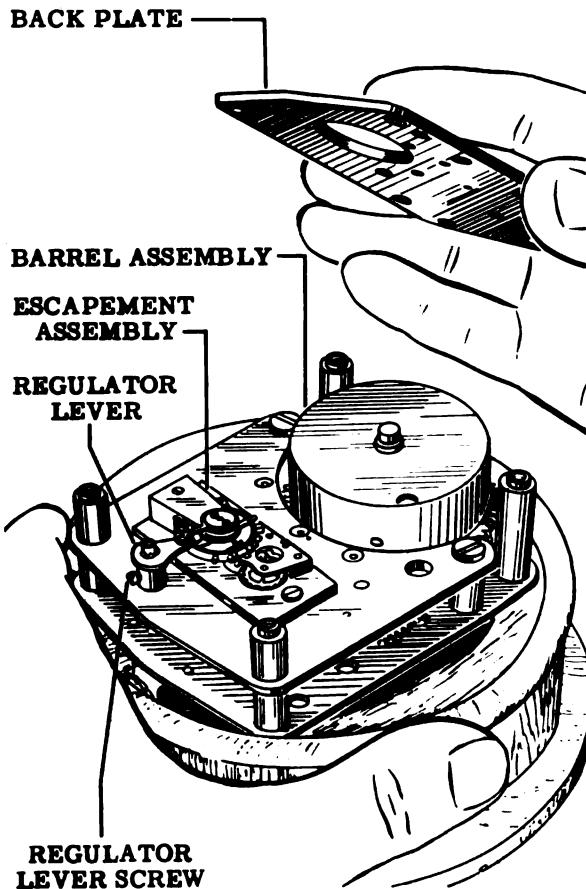
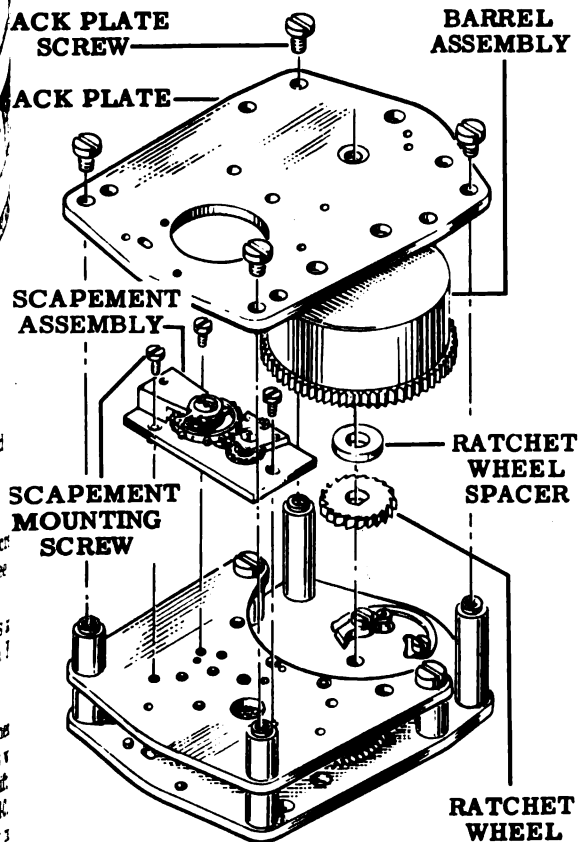
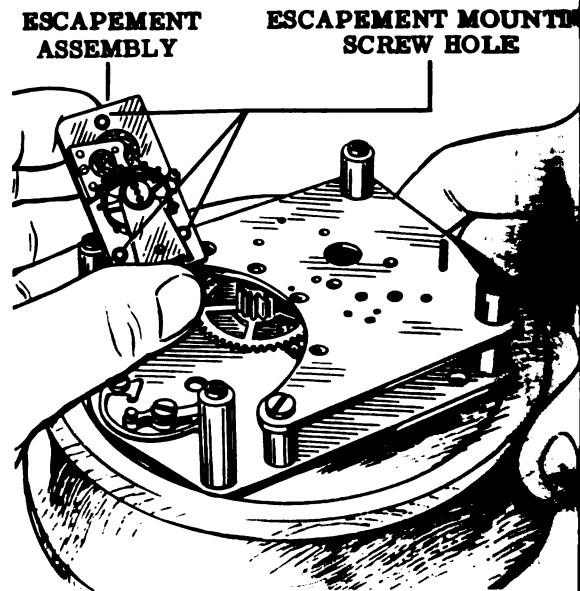

Figure 38
Figure 41—5165 Mechanical Clock Movement
Figure 45
5. Turn the movement over so that it is train side up (back plate up) on the movement work block (Tool No. 1B) and in the position shown in Fig. 38.
7. Unscrew the four back plate screws and remove the back plate as shown in Fig. 38. (Also see Fig. 41.)
- Lift out the mainspring barrel along with the ratchet wheel and ratchet wheel spacer. See Figs. 41 and 42.
2. If the regulator lever was not removed in Operation 4, loosen the regulator lever screw and lift off the regulator. Unscrew the escapement mounting screw and lift off the escapement as a complete unit as shown in Fig. 45. Also refer to Figs. 41 and 42. Set the escapement aside, for separate disassembly.